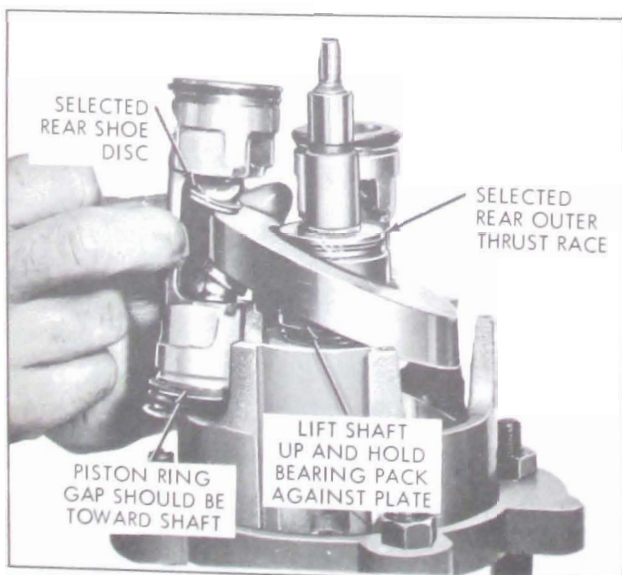

Figure 11-113—Installing Piston Assembly in Cylinder
3. With front and rear thrust bearing assemblies on shaft and shaft installed in front cylinder half, rotate swash plate so high point is above cylinder bore No. 1. Carefully assemble No. 1 piston (complete with ball and ZERO shoe on FRONT end and ball and numbered shoe on REAR end) over swash plate. See Figure 11-113. Position piston rings so that the gap is toward center of cylinder.